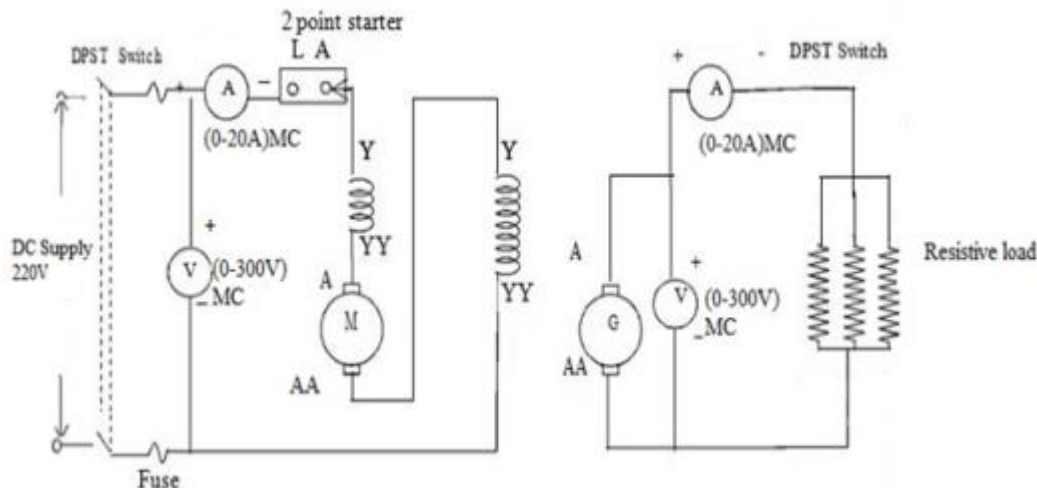

Figure 6 - Identical DC Shunt Machines
1. Calculate the efficiency of both dc series machines if the armature resistance of each machine is 2 ohms in figure 6